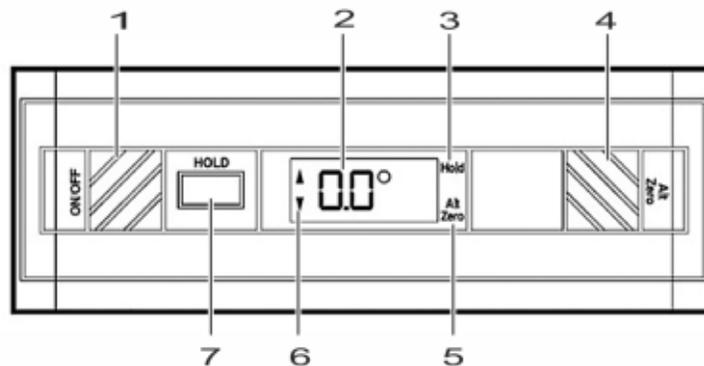

Figure 64
- ⇒ **Figure 64 -1-** – ON/OFF button
- ⇒ **Figure 64 -2-** – Display (LCD)
- ⇒ **Figure 64 -3-** – HOLD indicator
- ⇒ **Figure 64 -4-** – ALT ZERO button (alternative reference)
- ⇒ **Figure 64 -5-** – ALT ZERO indicator
- ⇒ **Figure 64 -6-** – Indicator arrows
- ⇒ **Figure 64 -7-** – HOLD button (Freeze)